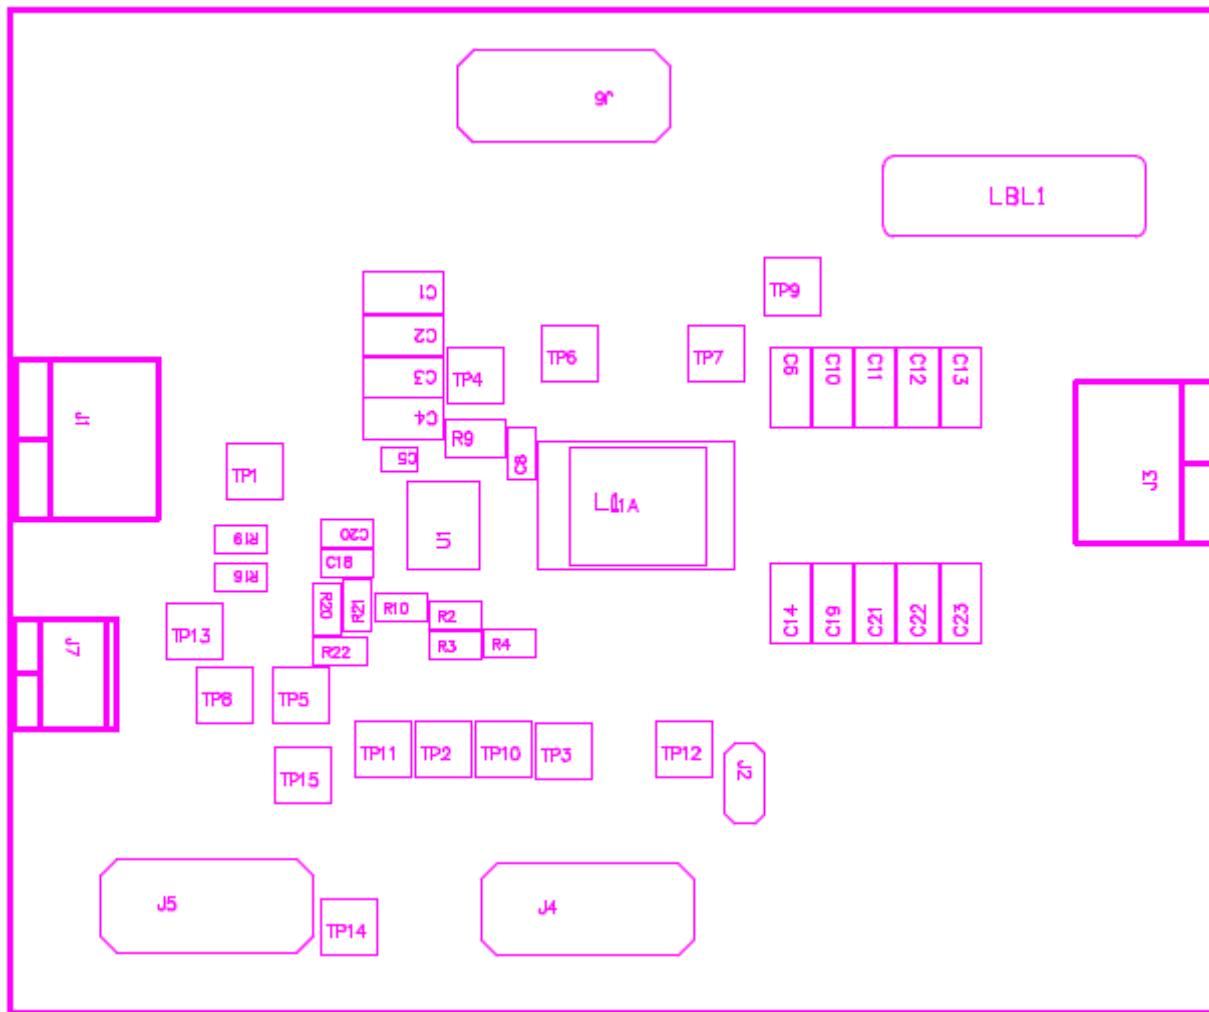

Figure 5-2. TPS53915EVM-587 Top Layer for Test Setup
| Figure 5-2. TPS53915EVM-587 Top Layer for Test Setup.....        | 5  |
**Voltage Source** The input voltage source VIN must be a 0 to 14-V variable-DC source capable of supplying 10 ADC. Connect VIN to J1 as shown in Figure 5-2.
1. Prior to connecting the DC input-source,  $V_{IN}$ , TI recommends to limit the source current from  $V_{IN}$  to 10-A maximum. Ensure that  $V_{IN}$  is initially set to 0 V and connected as shown in Figure 5-2.
1. Set up the EVM as described in Section 5 and Figure 5-2.